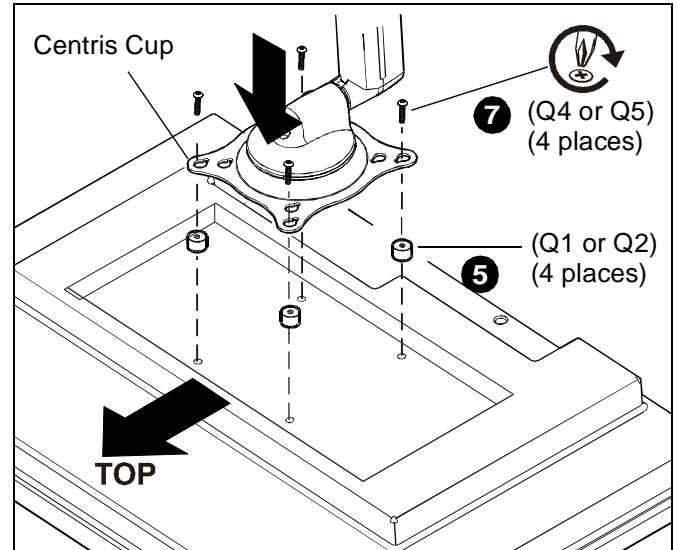

Figure 7
5. Place the four spacers (Q1 or Q2) over each mounting hole on the back of display. (See Figure 7)
6. Orient mount so that mounting holes in the Centris cup are aligned with the holes in the spacers (Q1 or Q2); rotate the Centris cup as required (See Figure 7).
7. Using Phillips screwdriver, install four screws (Q4 or Q5) through the mounting holes in Centris cup, through the spacers (Q1 or Q2), into display (See Figure 7).